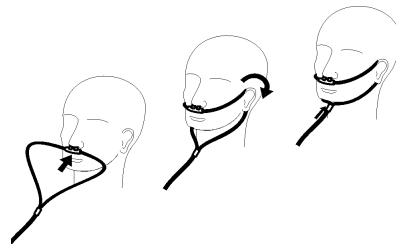

Figure 7
4. Place the nasal cannula onto the patient as shown in Figure 7.